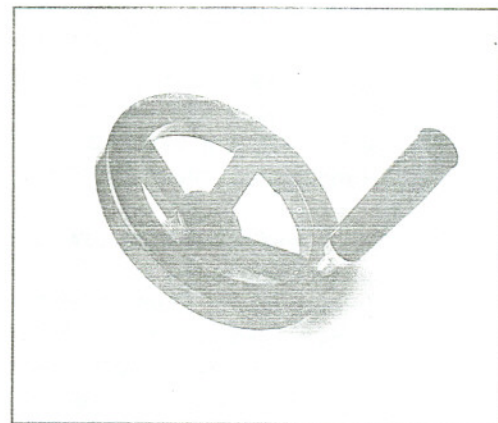

Fig. 5
1. Thread handle into handwheel and tighten. (Fig. 5)